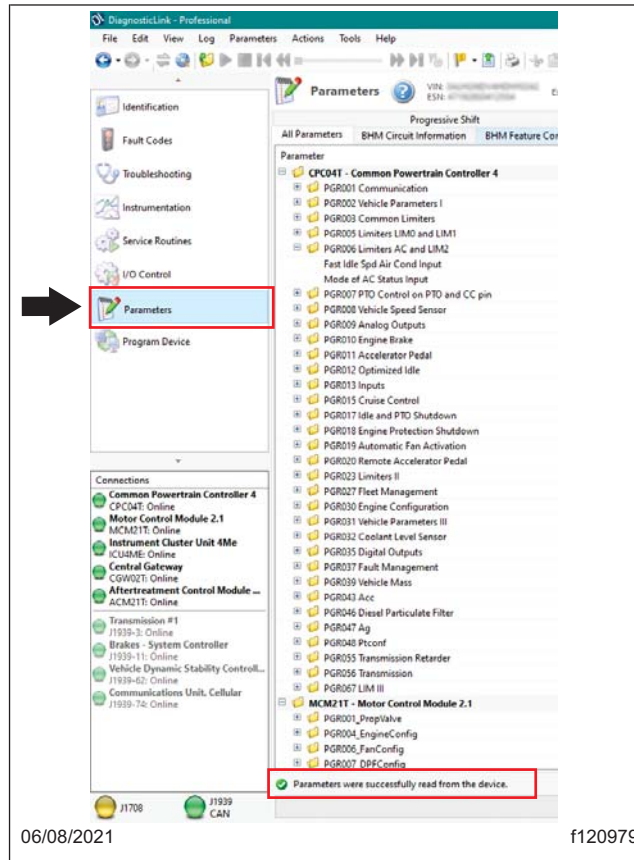

Fig. 2, 'Parameters' Tab
4. Open the 'Parameters' tab, and ensure that all the parameters are successfully read by DiagnosticLink. This will be indicated in the status bar at the bottom of the window. See Fig. 2.